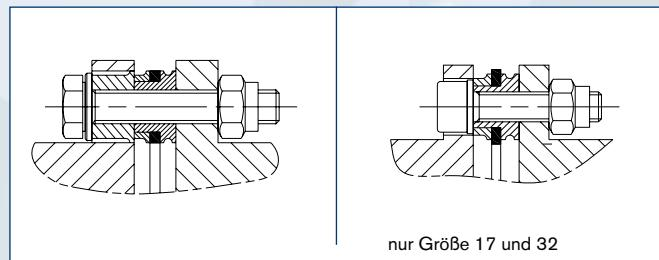

Abb. 8: Anordnung der Baugruppe
- Once the hubs are aligned in the axial, angular and parallel directions, install the disc pack and sleeve. Figure 8 show the hardware orientation for each coupling type.